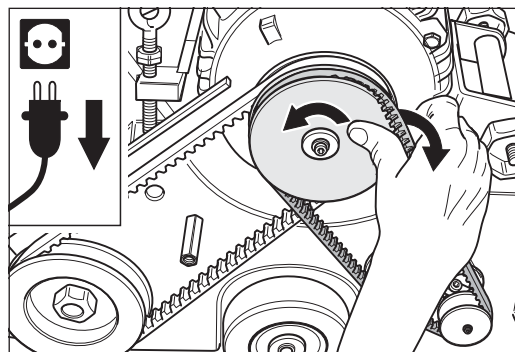

Fig. 105 Remove the suction V-belt.
- 8 Turn the motor pulley and allow the suction V-belt to run off the motor pulley (Fig. 105).